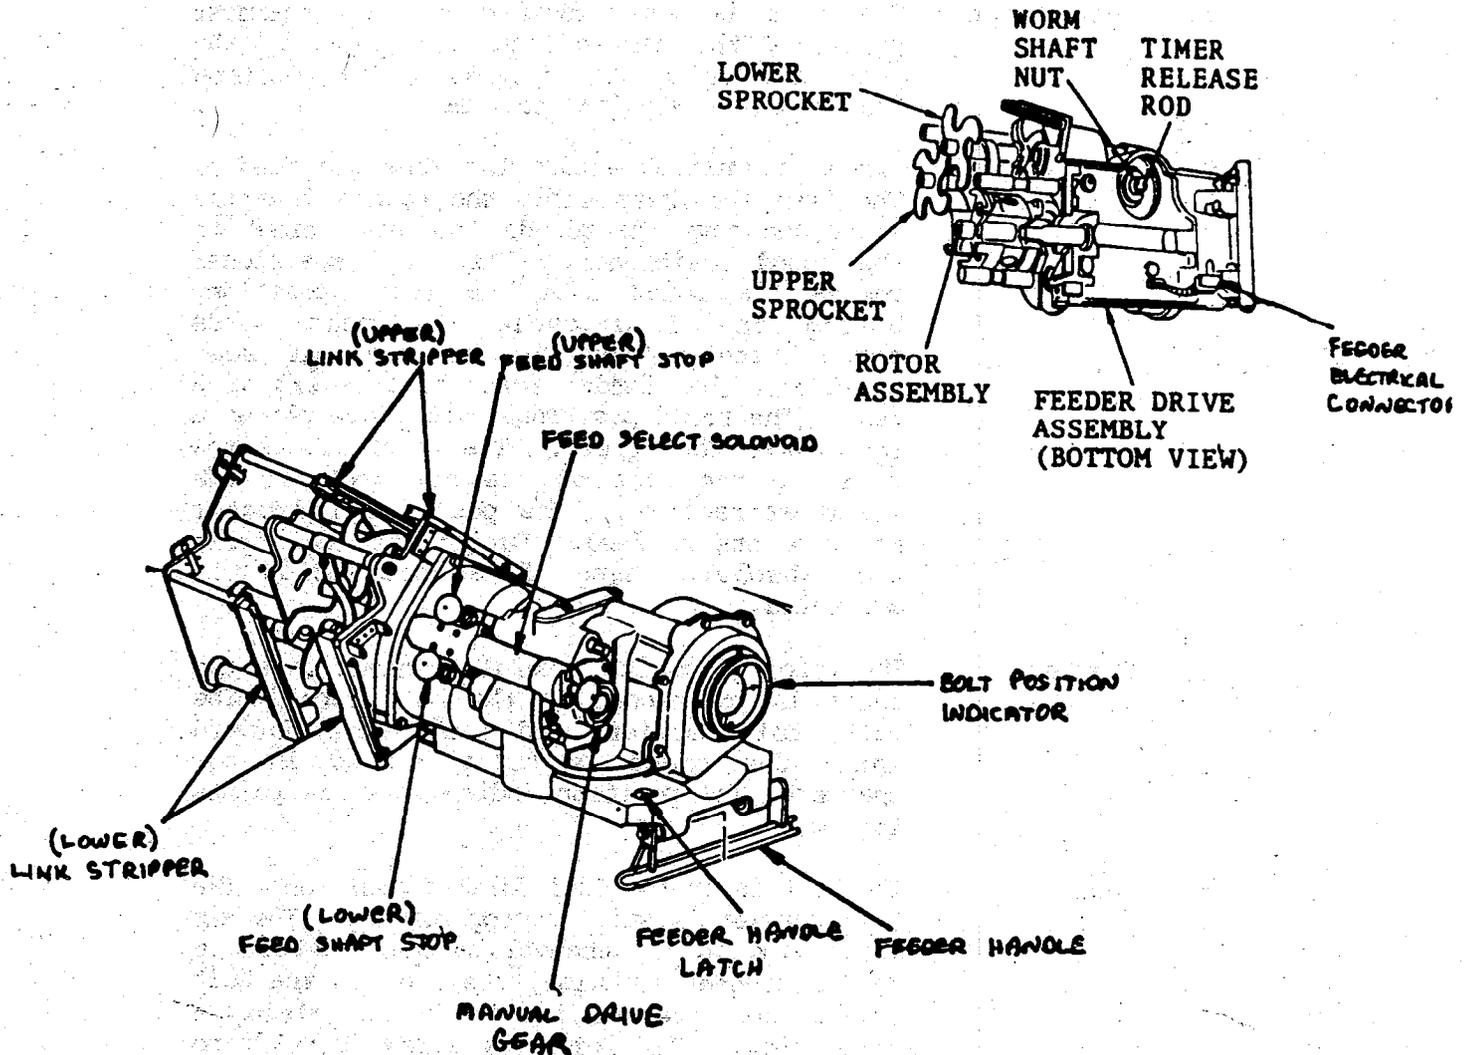

Fig. 35
- (13) The firing pin and tang consists of the pin spring assembly and retaining ring, firing pin body and firing pin tang. The tang, during normal cycling of the gun, is held back by the firing pawl as the bolt cam action rotates 30°. If the manual safety handle is in fire, the safety pawl is lowered, allowing the firing pin tang to slide off the firing pawl. The spring is compressed just prior to pin fall, providing 32 inch pounds of striking force to the firing pin tip on the cartridge primer. If the manual safety handle is in the safe position, the safety pawl is raised, precluding the tang as it rotates off the firing pin pawl to fall. The firing pin has an 8000 rd life, which is verified on the 2408-4 Weapons Record Data form, and must be replaced.
d. The feeder assembly consists of 2 competent groups; (see fig. 35) the forward and rear feeder assemblies. The forward feeder assembly primarily concerns the cartridge feed paths and link and cartridge ejection, while the rear feeder assembly houses the electronic sensors and gear assemblies that monitor gun function.
- (1) The worm shaft nut enables drive interface between the receiver verticle drive shaft and feeder worm shaft.
- (2) The timer release rod, when the verticle drive shaft is raised and engages the worm shaft nut, unlocks the index drive cam (located behind the bolt position indicator) to allow free movement of the feeder gears during normal gun cycling.
- (3) The feeder handle insures a positive connection between the receiver and feeder electrical connectors.
- (4) The feeder handle latch locks the feeder handle in the up or down positions.
- (5) The upper and lower feed shaft extensions enables rotation of the feed sprockets during upload and download of the gun.
- (6) The upper and lower feed shaft stops (clutch override handles) insure that the feed sprockets cannot reverse normal direction of feed, unless download of the gun is desired.
- (7) The upper and lower feed sprockets guide linked cartridges into the upper and lower round paths to the round positioner and rotor assemblies, as well as the links through the upper and lower link strippers. Feed sprocket selection is controlled by the feed select solenoid, which enables only the single selected sprocket to rotate.
- (8) The feed select solenoid enables manual and electrical selection of the upper and lower feed sprockets.
- (9) The manual driver gear enables manual cycling of the gun using the manual hand crank.
- (10) The bolt position indicator (BPI) enables visual determination of the gun's status during normal and/or abnormal conditions.